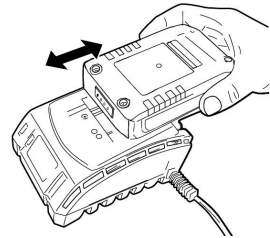

Fig. 7
- Connect the battery to the charger (Fig. 7).